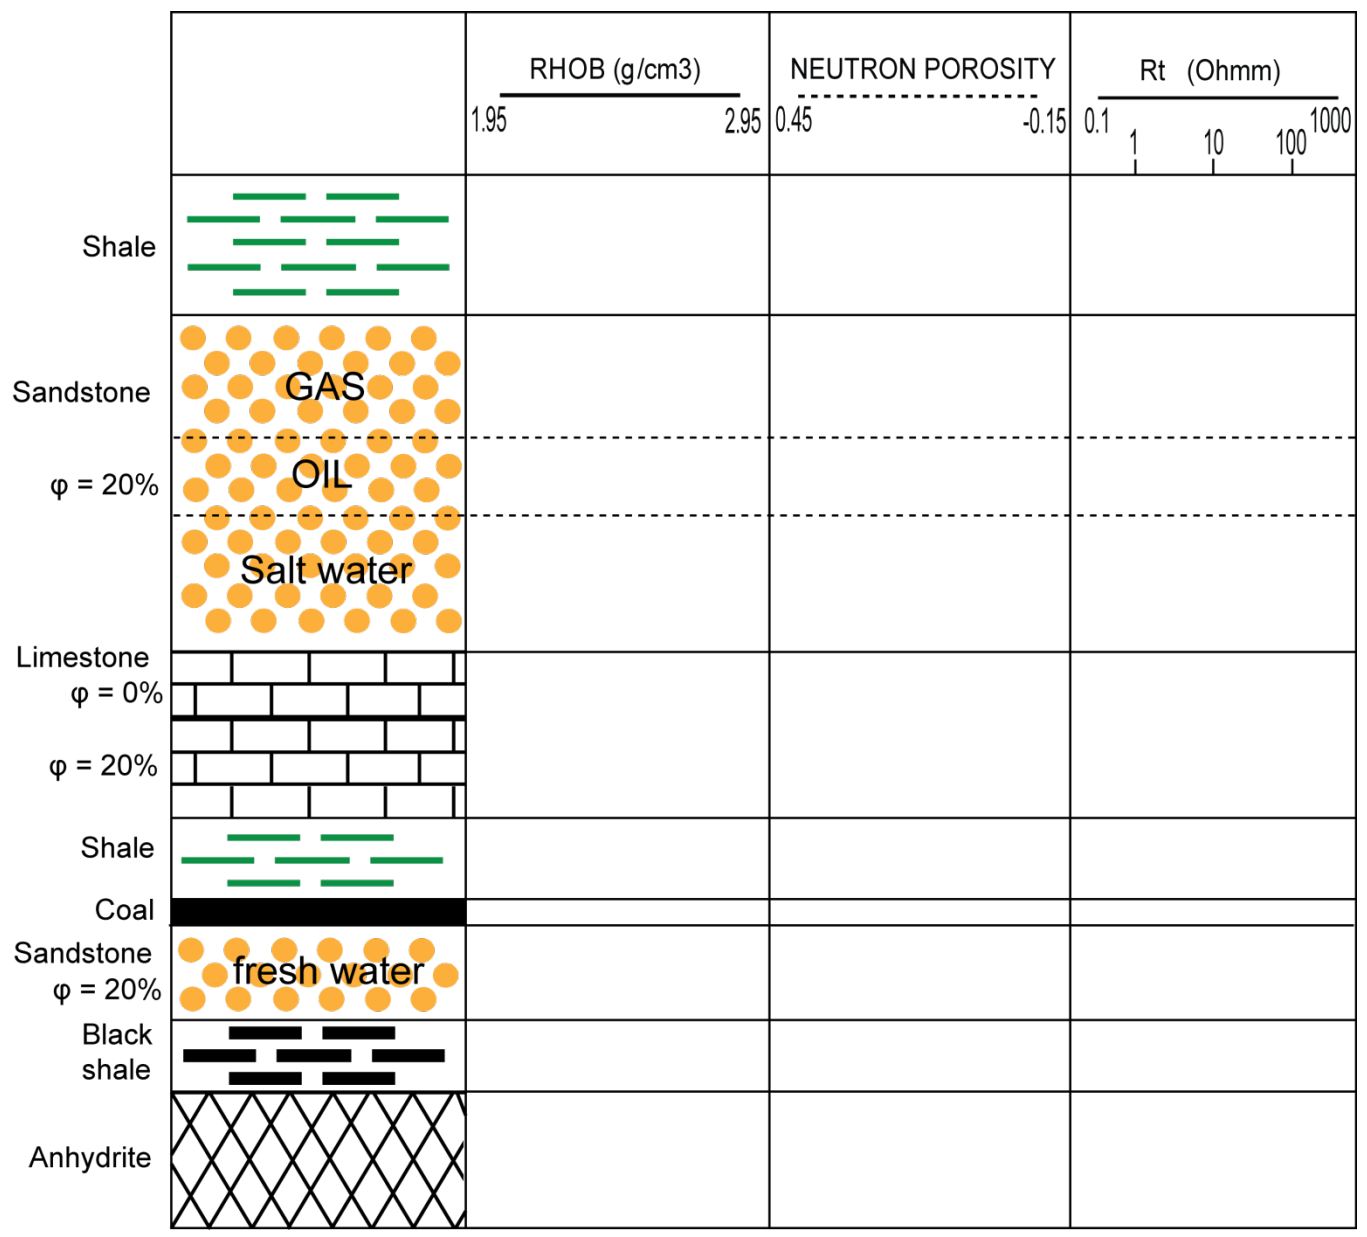

FIGURE 2.2
2. Figure 2.2 presents a lithology section. Draw directly in Figure 2.2 the log responses to this column for: